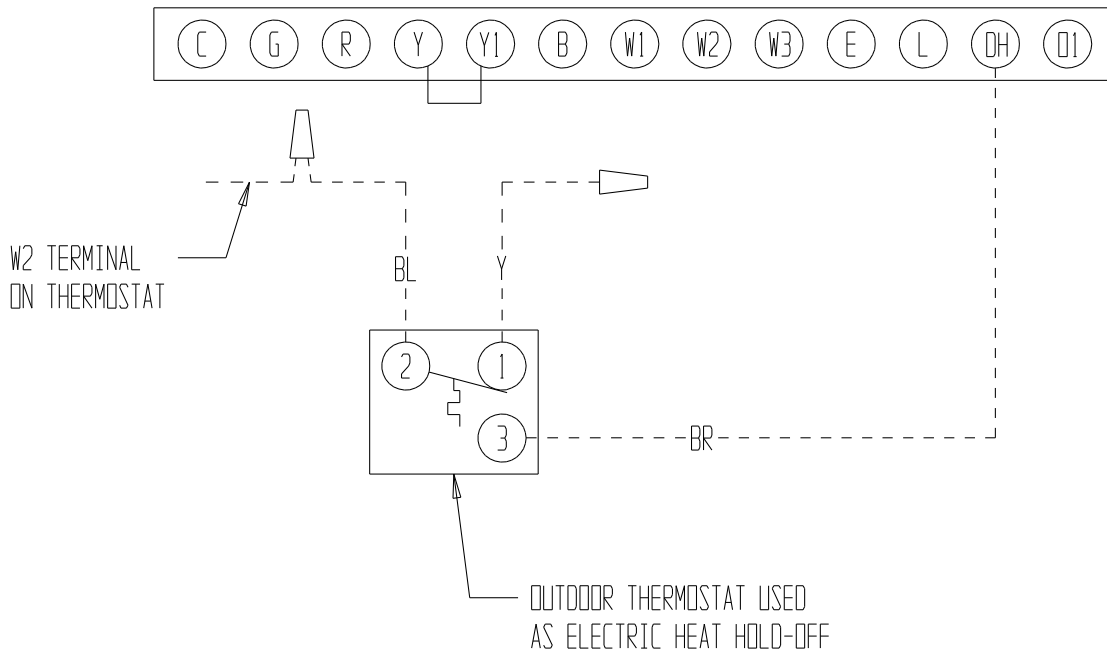

FIGURE 3 – SMALLER CABINET UNITS
Disconnect all power to unit. Remove control panel inner and outer covers, and right side condenser inlet grille and front service access panel. Circled numbers on Figures 3 - 5 correspond to installation instruction steps.
- Step 2. Mount relay assembly 910-1645 in position shown in Figure 3 (smaller cabinet) or 4 (larger cabinet) to control panel with the screws provided.
- Step 8. Remove factory jumper (bus bar) from Y to Y1. Connect wires to the low voltage terminal strip as shown in Figure 3 or 4. See Wiring Diagrams - Figure 1.
- Step 9. Run the Yellow/Brown and Yellow wires from the ODT to the LAC/ODT relay and connect as per Figure 3 or 4.